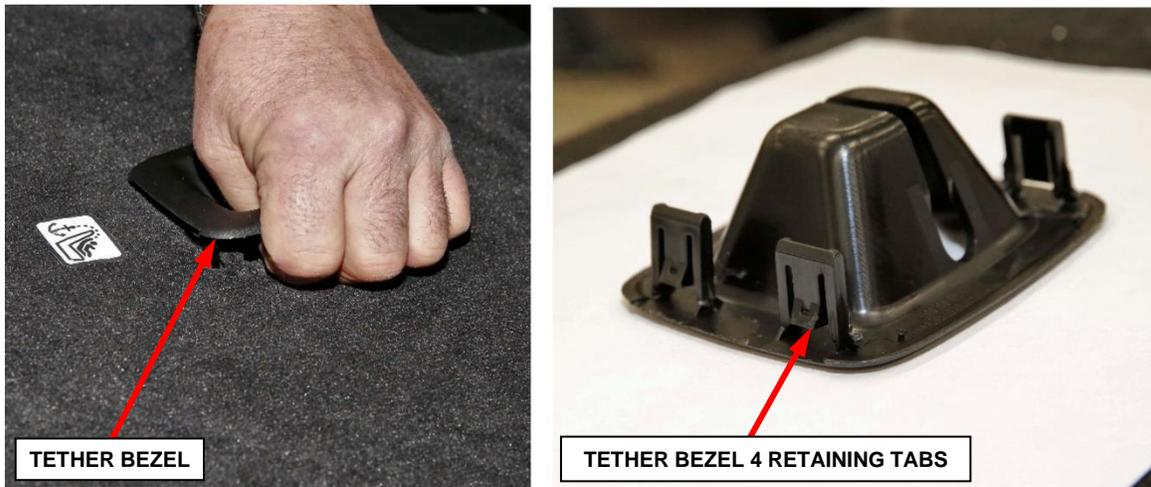

Figure 7 – Tether Bezel 4 Retaining Tabs
10. Depress the retaining tabs on the tether bezel in all four locations then push the tether bezel out from the inside to outside (Figure 6) and (Figure 7).
11. Remove the bezel from the seat (Figure 7).